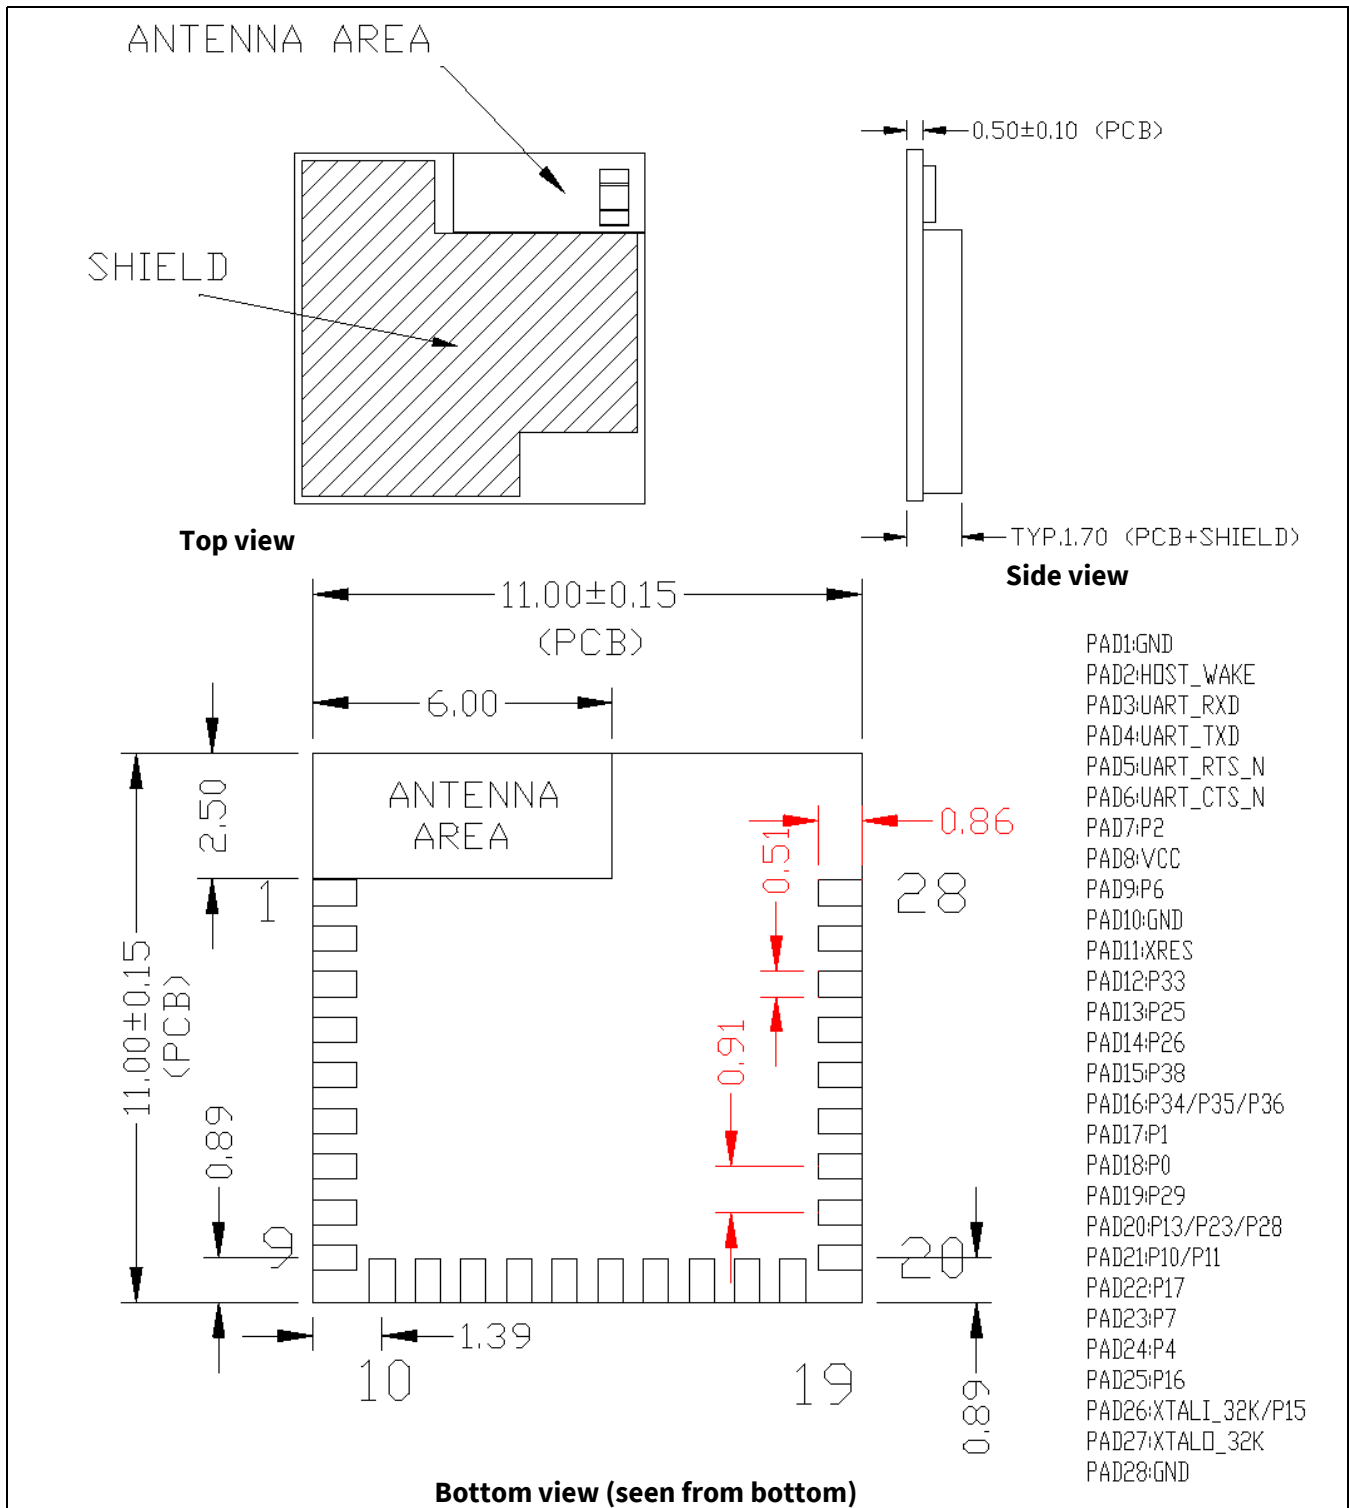
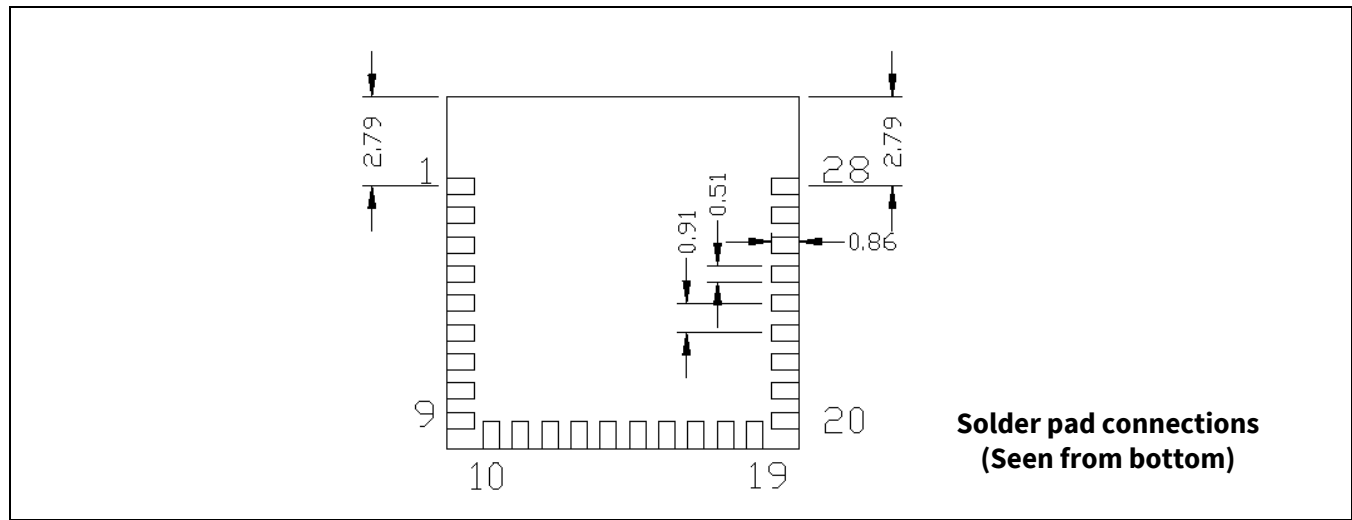
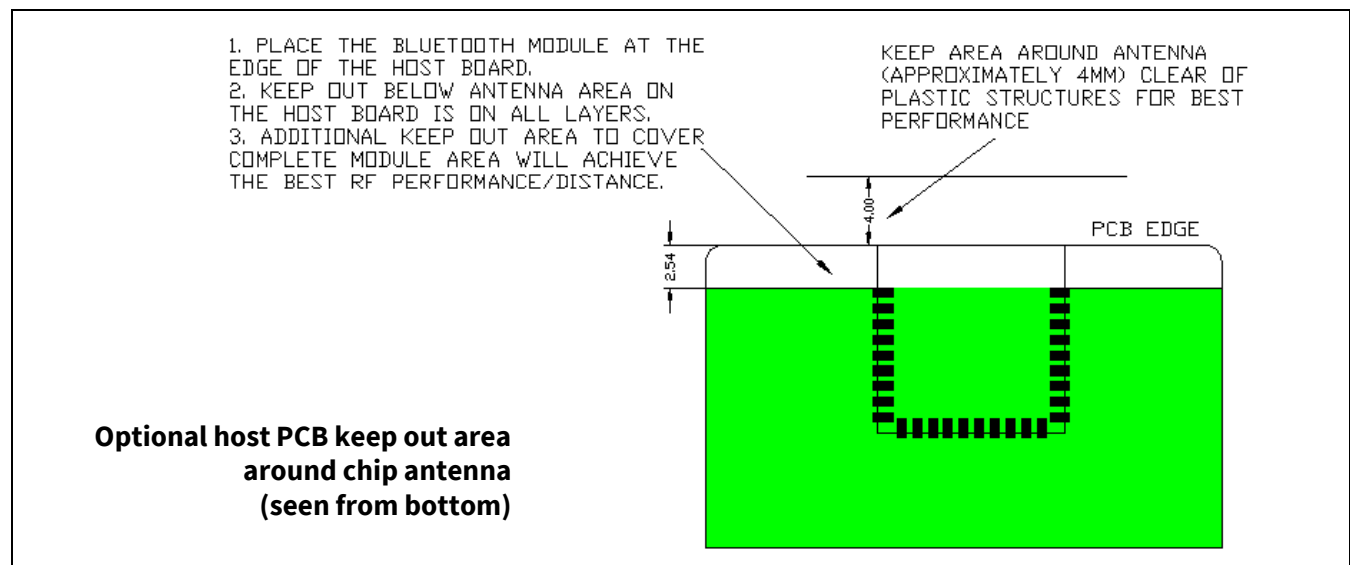

Figure 2 Module mechanical drawing^[1]
Figure 3 Solder pad dimensions (seen from bottom)
Figure 4 Optional additional host PCB keep out area around CYBT-4230xx-02 chip antenna
Infineon reserves the right to select components from various vendors to achieve the Bluetooth® module functionality. Such selections will still guarantee that all mechanical specifications and module certifications are maintained. Any changes to the current BOM for CYBT-4230xx-02 will not be made until approval is provided by the end customer for this product. CYBT-4230xx-02 will be held within the physical dimensions shown in the mechanical drawings in Figure 2. All dimensions are in millimeters (mm).
See Figure 2 for the mechanical reference drawing for CYBT-4230xx-02.
As shown in the bottom view of Figure 2, CYBT-4230xx-02 has 28 connections to a host board via solder pads (SP). Table 2 and Figure 3 detail the solder pad length, width, and pitch dimensions of CYBT-4230xx-02 module.
1. Antenna area keepout: The host board directly below the antenna area of the module (see Figure 2) must contain no ground or signal traces. This keep out area requirement applies to all layers of the host board.
2. Module placement: The ideal placement of the Bluetooth® module is in a corner of the host board with the chip antenna located at the far corner. This placement minimizes the additional recommended keep out area stated in item 3 below. See AN96841 for module placement best practices.
3. Optional keepout: To maximize RF performance, the area immediately around the Bluetooth® module chip antenna may contain an additional keep out area, where there are no grounding or signal traces. The keep out area applies to all layers of the host board. The recommended dimensions of the host PCB keep out area are shown in Figure 4 (dimensions are in mm).